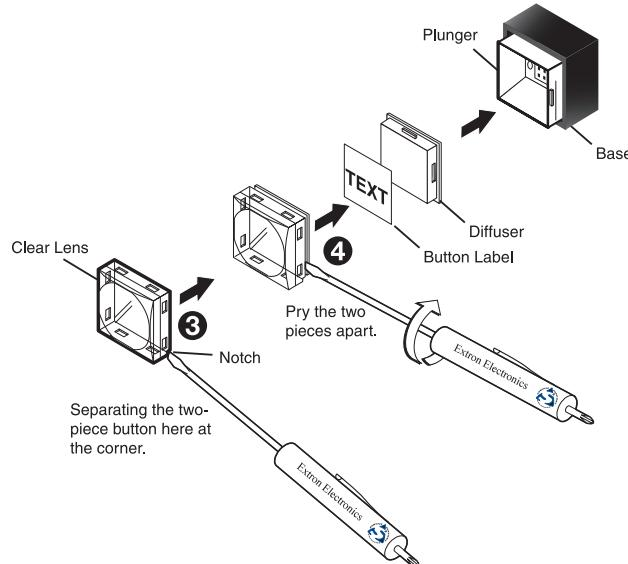

Figure 9. Replacing a Button Label
The front panel button caps are pre-labeled for your convenience by default. However, you can replace them with button labels that you create, using the Button-Label Generator or other button label software. The button assembly consists of a clear lens cap, the button label, and a white diffuser (see the illustration at right and **figure 9** on the next page). Replace button labels as follows:
3. Locate the small corner notch on the lens cap, and slide the screwdriver between the lens cap and the diffuser (see figure 9, **③**).
4. Using a rotating motion of the screwdriver, carefully pry the two pieces apart (see figure 9, **④**).